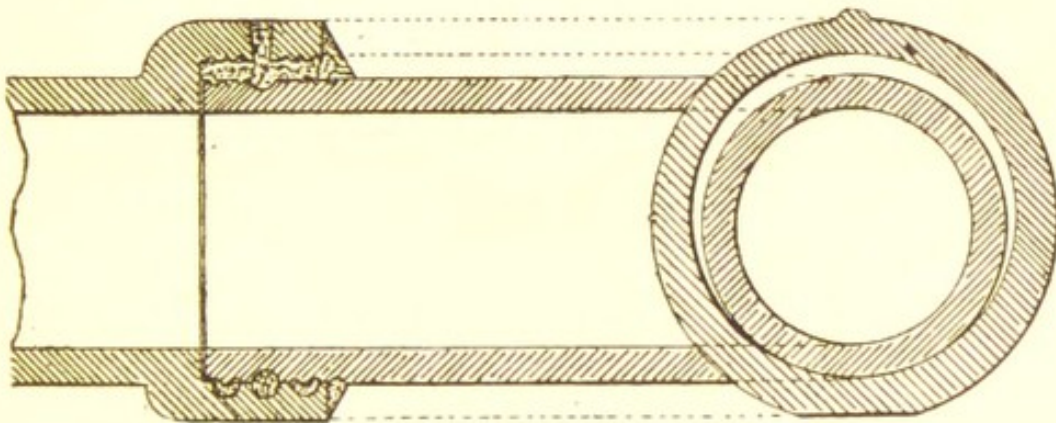

FIG. 10.
*Patent Paragon Pipes* (Fig. 10).—The sockets of the patent Paragon pipes are made eccentric to the pipe, so that when laid the spigot rests on the socket and has a solid bearing thereon and cannot drop, thus maintaining a true invert. The pipes are made in three forms, varying in depth of socket.